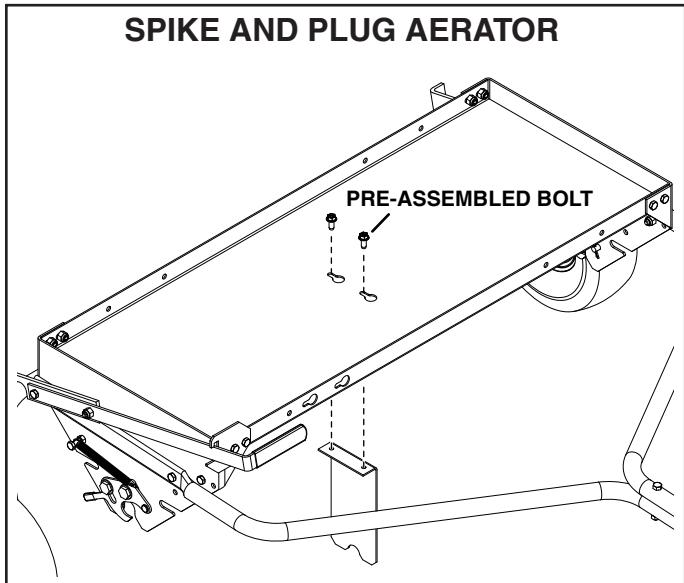

FIGURE 10
2. For spike and plug aerator tools, the center brace should be attached to the middle of the Smartlink Platform as shown in figure 10. **Do not tighten yet**.